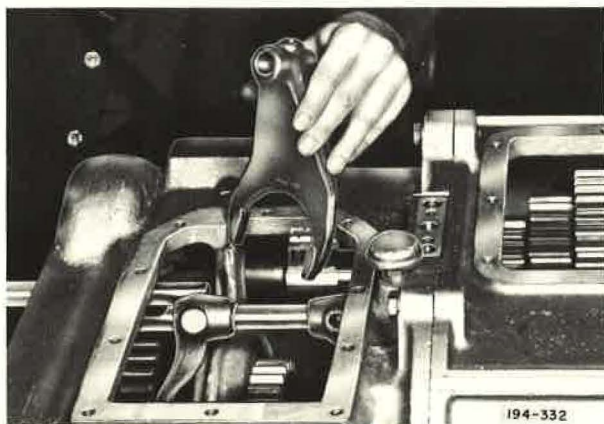

Figure 44. Installing Second and Third Speed Shifter Fork
28. Start second and third speed shifter rail through hole provided in rear of case. Engage second and third speed fork with second and third speed sliding clutch. See Figure 44. Advance rail through hub of fork and intermediate bore of case.